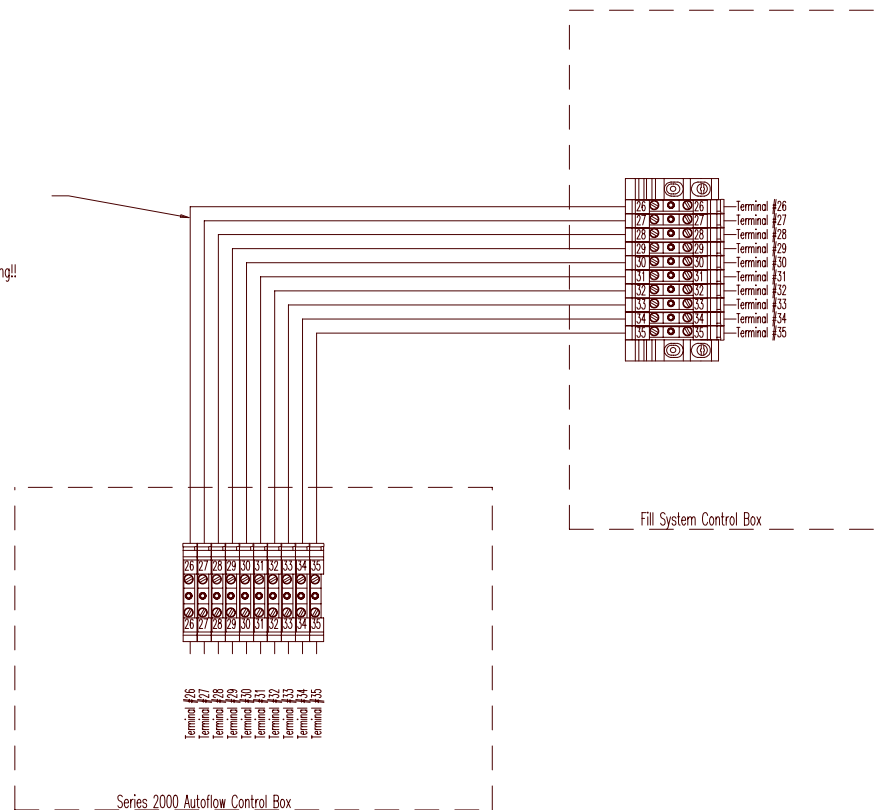

Figure 24
- 1) Run ten (10) control wires from the Autoflow Control Box to the Fill System Control Box.
- 2) Connect the wires as shown in figure 24.